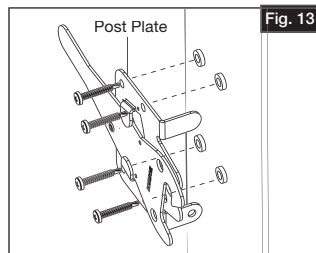

Fig. 13
- Place four 1" screws (provided with latch) through the screw holes on the larger, side-surface of the post plate (Fig. 13).
- Place the four spacers onto the screws (on the opposite side of the post plate), so they will be between the post plate and the post when post plate is mounted (Fig. 13).